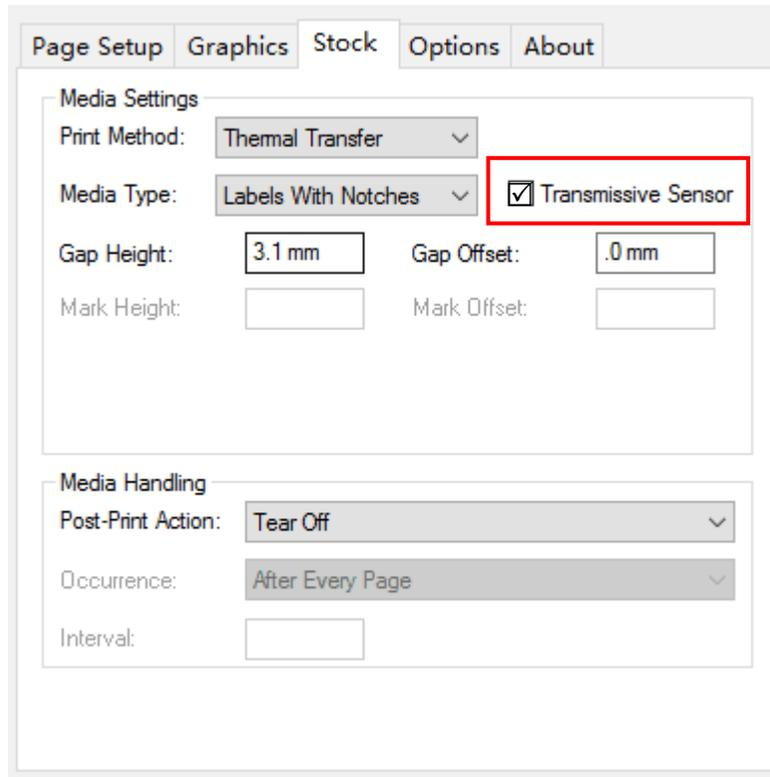

Figure 8-2
7. Open the “Advanced setup” from the printer’s driver on your PC, select “Stock” tag, and then select the correct media type from the drop-list and check the box of “Transmissive Sensor”, see figure 8-2.